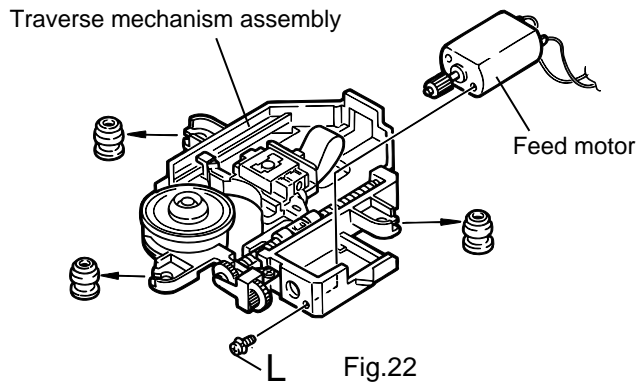

Fig.22
**■ Removing the feed motor (See Fig.22)**